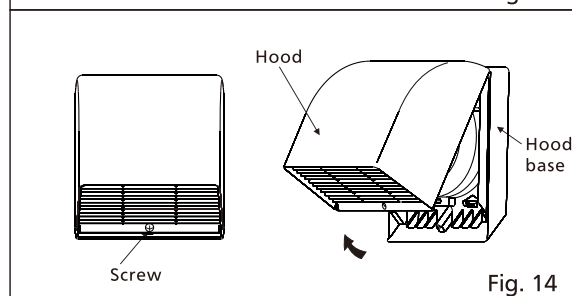

Fig. 14
14. Detach hood and hood base by loosening the screw. (Fig.14)